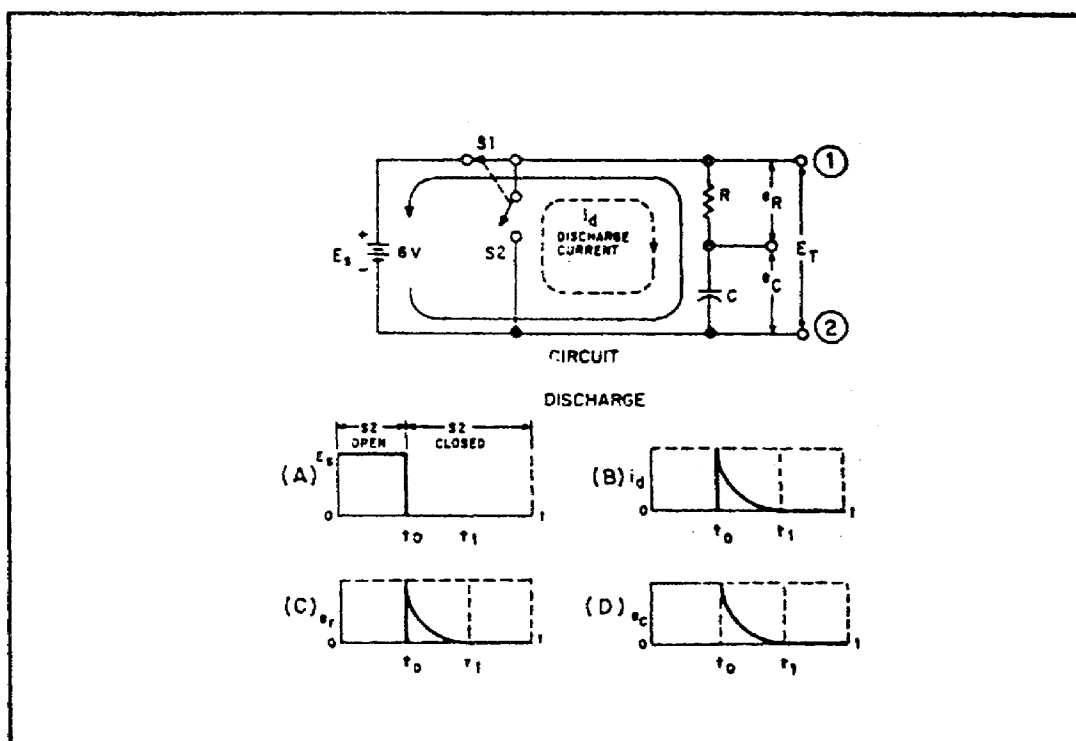

FIGURE 35. DISCHARGE OF AN RC SERIES CIRCUIT.
(2) *Discharge Cycle.* In figure 35 on page 56, at time t_0 , the capacitor is fully charged. When S_1 is open and S_2 closes, the capacitor discharge cycle starts. At the first instant, circuit voltage attempts to go from source potential (6 volts) to zero volts, as shown in figure 35, graph A. Remember, though, the capacitor during the charge cycle has stored energy in an electrostatic field.
The discharge causes a corresponding voltage drop across the resistor as shown in figure 35, graph C. At time t_0 , the current through the resistor is maximum and the voltage drop (e_r) across the resistor is maximum. As the current through the resistor decreases, the voltage drop across the
resistor decreases until at t_1 it has reached a value of zero. Graph D, figure 35, shows the voltage across the capacitor (e_c) during the discharge cycle. At time t_0 , the voltage is maximum, and as time progresses toward time t_1 , the energy stored in the capacitor is depleted. At the same time, the voltage across the resistor is decreasing, the voltage (e_c) across the capacitor is decreasing, until, at time t_1 , the voltage (e_c) reaches zero.
Comparison of graph A with graph D of figure 35 indicates the effect that capacitance has on a change in voltage. If the circuit had not contained a capacitor, the voltage would have ceased at the instant S_1 was opened at time t_0 . Because the capacitor is in the circuit, voltage is applied to the circuit until the capacitor has discharge completely at t_1 . The effect of capacitance has ten been to oppose this change in voltage.